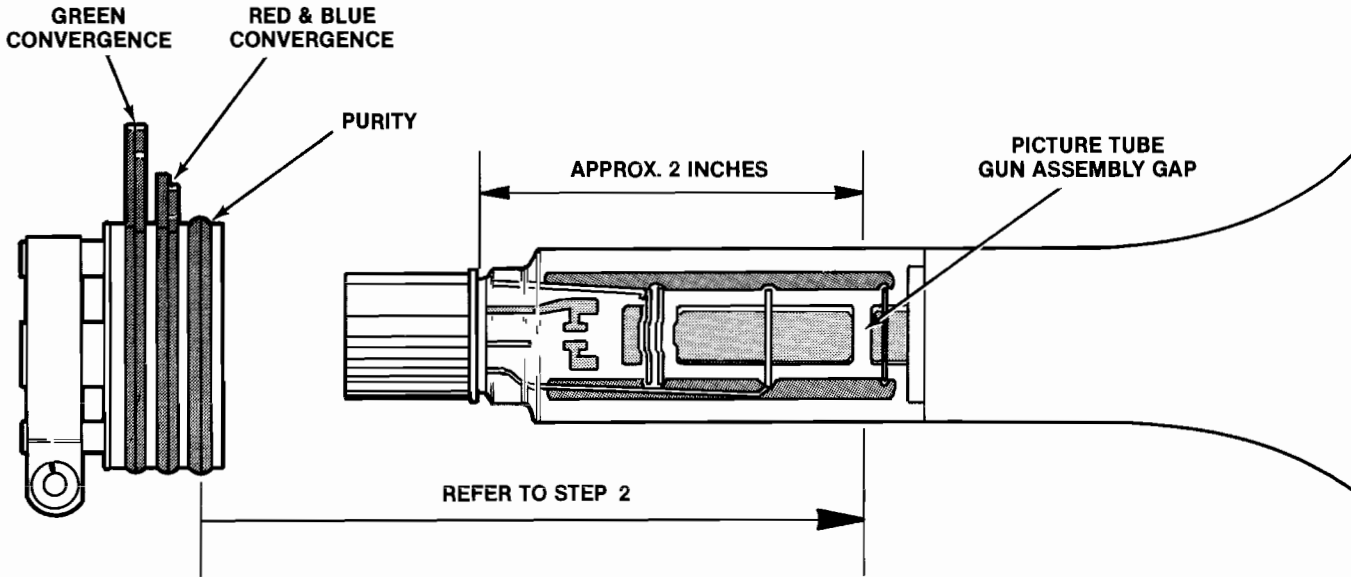

Figure 18 Purity and Convergence Adjustments
2. Position the convergence-magnet assembly so that the purity rings shown in Figure 18 are positioned directly over the gap in the cathode-ray tube gun assembly. This is about two inches forward from the start of the neck glass.
8. Adjust the purity rings of the magnet assembly shown in Figure 18 to center the green band horizontally on the face of the CRT.
- b. Adjust the angle of the tabs of the red and blue convergence magnets to superimpose the red and blue vertical lines in the center of the screen area. This will produce magenta vertical lines at screen center. These magnets are shown in Figure 18.